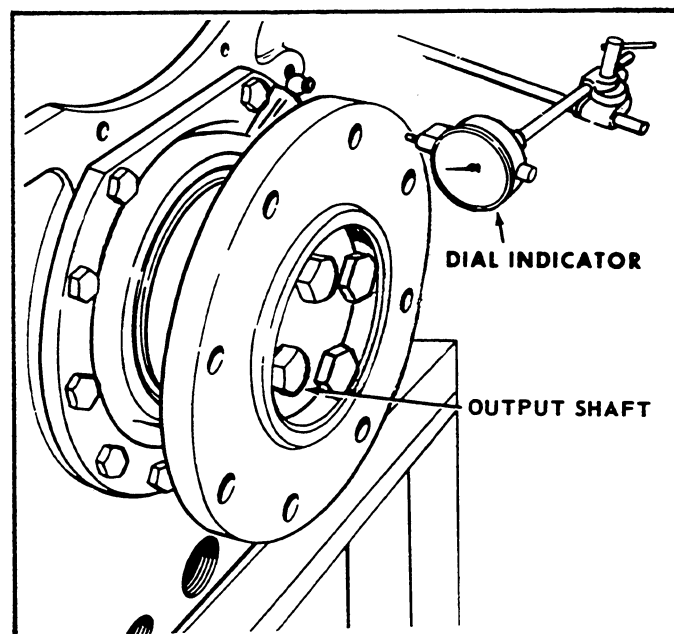

Figure 9-18. *Checking Race Runout of Output Flange.*
5. If the alignment varies during rotation, then further alignment is necessary, or the marine transmission and shaft couplings should be checked for improper face runout. See Figure 9-18 and 9-19. Runout must not exceed 0.004-inch. Face runout on the marine transmission output flange can usually be corrected by repositioning the coupling on its spline.